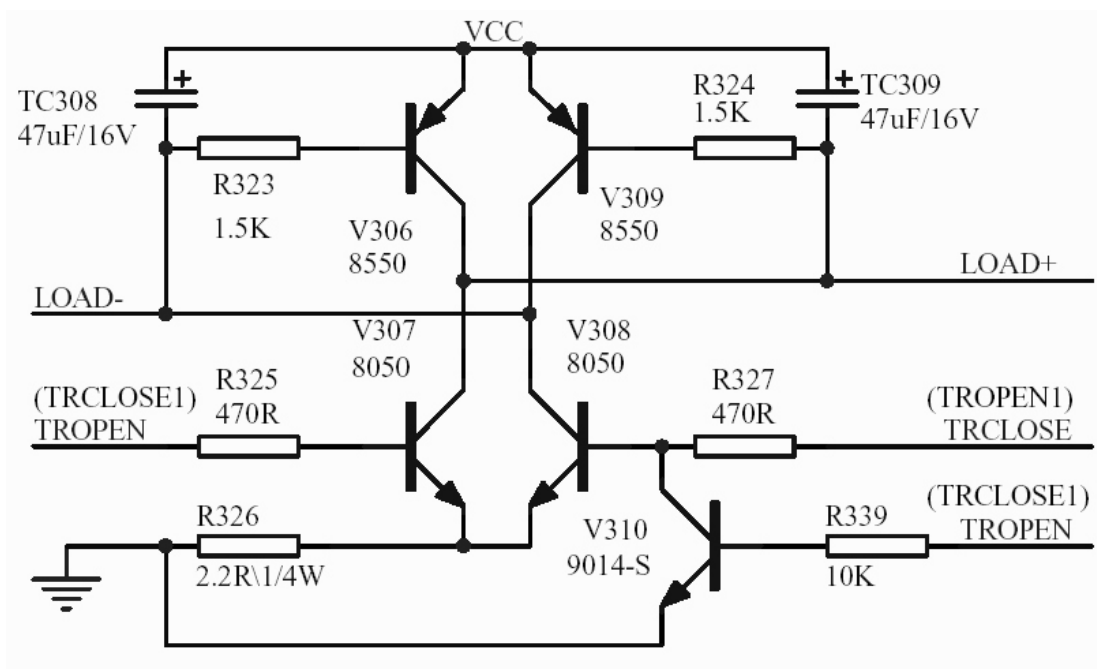

Figure 3.2.6.1 Discin/out circuit
1. The circuit schematic diagram is shown as the following figure 3.2.6.1: